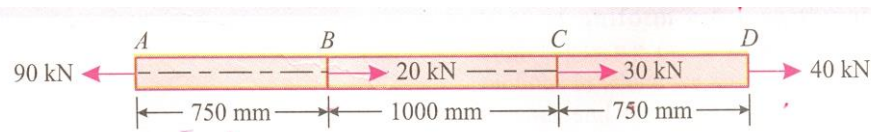

Fig. 2.14
6. a) A steel bar of 600 mm^2 cross-sectional area is carrying loads as shown in fig below (fig. 2.14). Determine the elongation of the bar if E for the steel is 200 GPa . 05